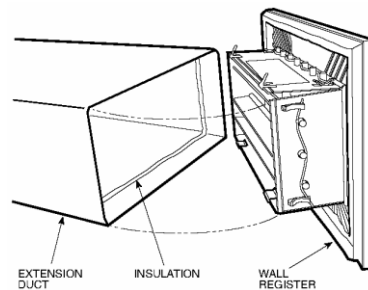

Fig. 11 — Trimmed Insulation in Extension Duct
7. Trim insulation back approximately 1-1/2 in. to allow installation of wall register. See Fig. 11
1. In adjacent room, center the register on the duct end and push into the duct until the frame is tight to the wall. See Fig. 11